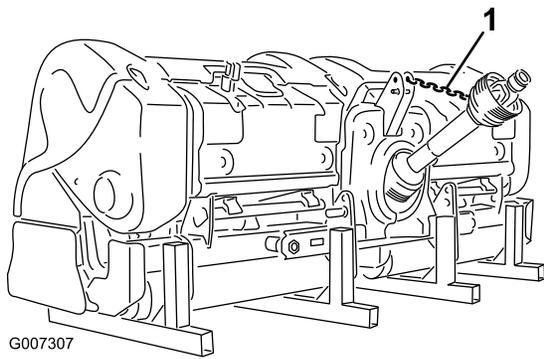

Figure 45
12. Connect the PTO tether to the PTO shield to prevent the PTO shaft from contacting the ground (Figure 45).